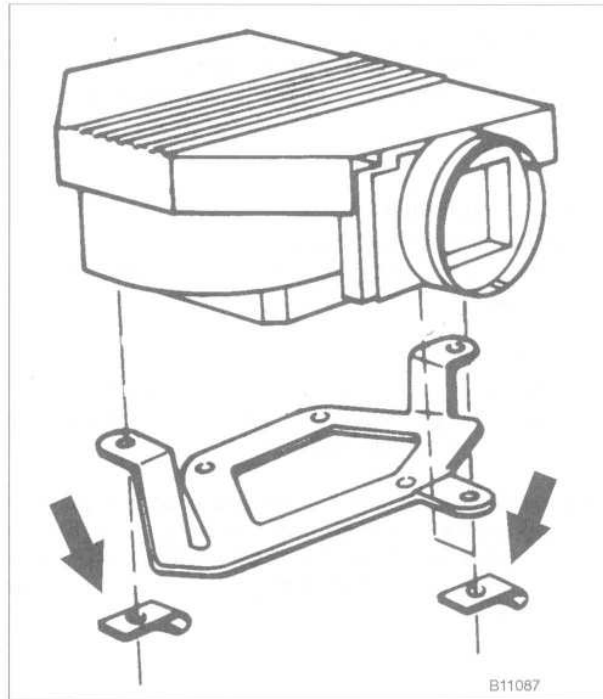

Fig. 23. Air flow sensor mounting clips (arrows).
- Remove the air flow sensor by disconnecting the harness connector and removing the retaining clips from the underside of the meter. See Fig. 23.